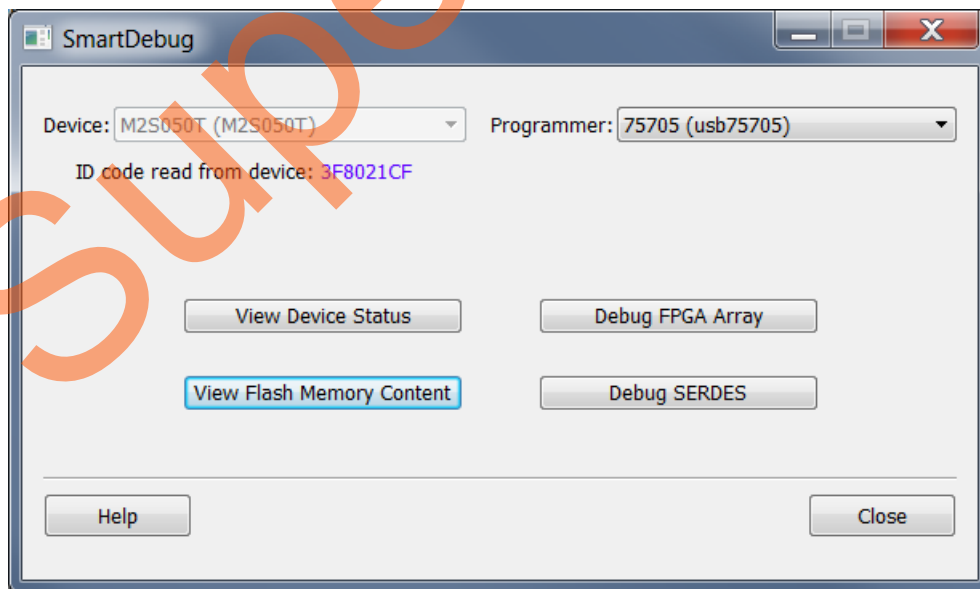
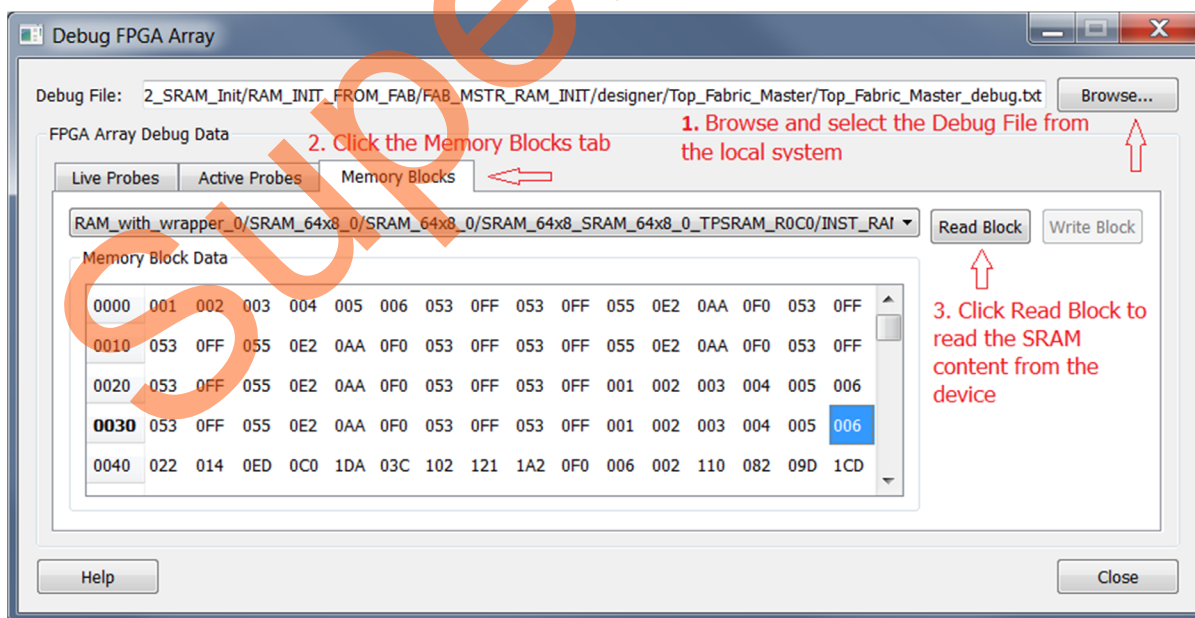

Figure 17 • SmartDebug Window Debug Options
Figure 19 • SRAM Content Read from the Device
3. Click **View Flash Memory Content** to retrieve the eNVM content from the device using the SmartDebug window as shown in Figure 17. The Flash Memory window is displayed.
6. Click **Debug FPGA Array** as shown in Figure 17 to open the Debug FGPA Array window as shown in Figure 19.
a. Browse to select the Top_Fabric_Master_debug.txt file. The Debug File must be specified before starting the FPGA Array Debug as shown in Figure 19. For example, the Debug File = <project root>/designer/Top/Top_Fabric_Master_debug.txt
c. Click **Read Block** to read the SRAM content in real-time from the device. The content of the SRAM is displayed as shown in Figure 19. The SRAM data that is stored into eNVM which is used to initialize the SRAM block.